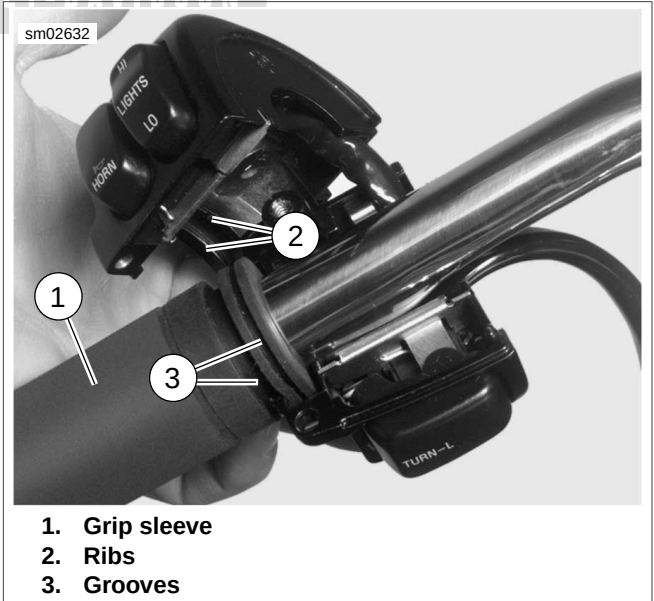

Figure 6-156. Left Handlebar Switch Housings
2. See Figure 6-156. Install upper and lower switch housings on handlebar. Be sure that ribs (2) on outboard side of switch housings fit in grooves (3) molded into grip.